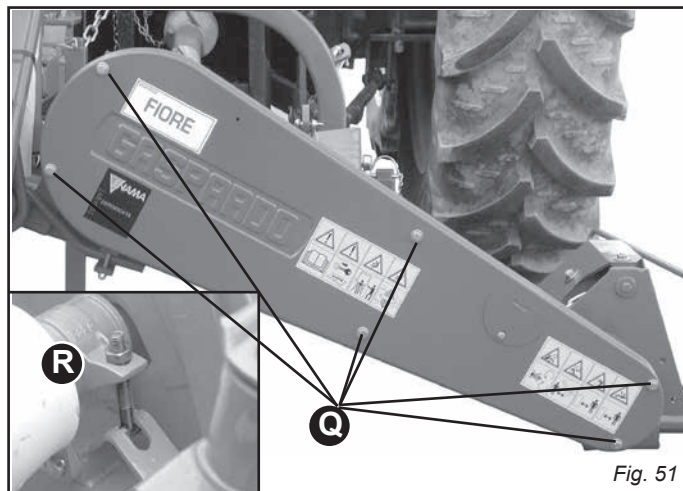

Fig. 51
- Unscrew the screws (Q, Fig. 51) and remove the protective casing.
- Loosen the belt tensioner completely (R, Fig. 51).
- Put the protective casing back in position and fix it in place with the screws (Q, Fig. 51).